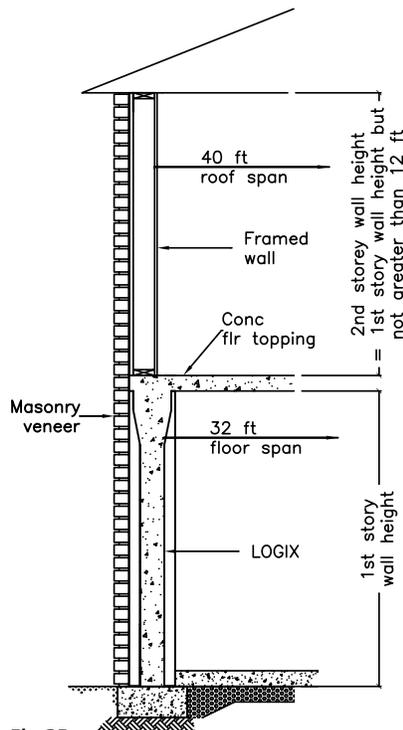

Fig 3B
- One storey Logix supporting 2nd storey wood frame plus wood roof frame (Fig. 3B)